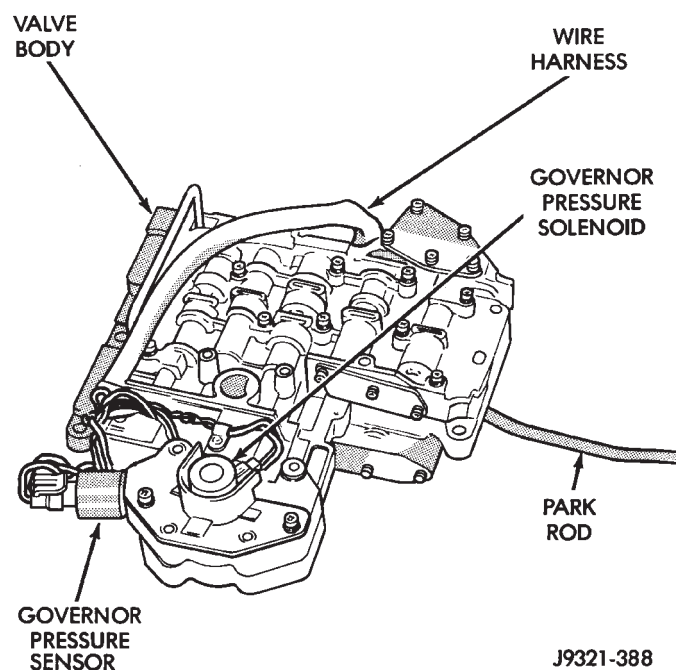

Fig. 28 Valve Body
(11) Lower valve body, rotate valve body away from case, pull park rod out of sprag, and remove valve body (Fig. 28).